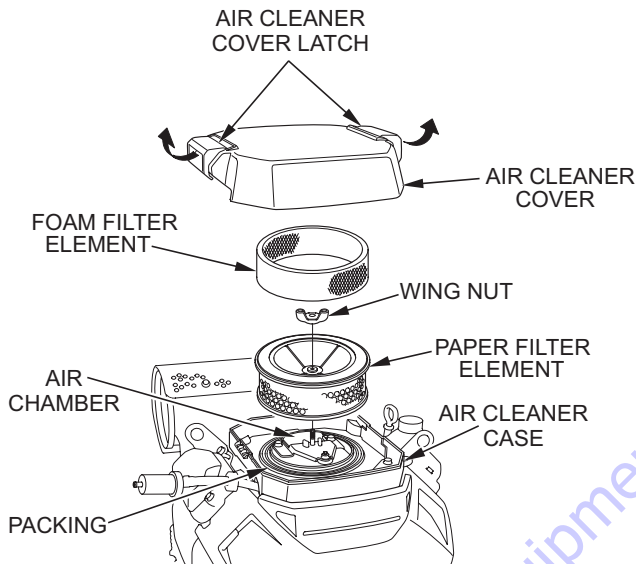

Figure 37. Engine Air Cleaner
1. Pull the air cleaner cover latch (Figure 37) to the unlock position, and remove the cover.